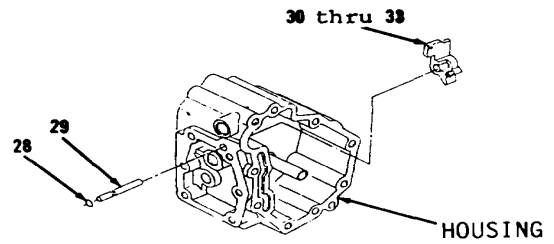
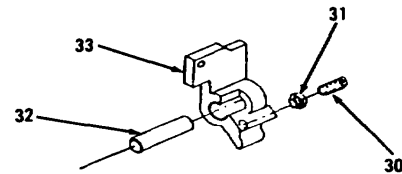

Figure 3-114.
Figure 3-115.
12. Remove shaft (29, Figure 3-114) and items 30 thru 33 as an assembly.
13. Remove ring (28) from shaft (29).
14. Remove setscrew (30), nut (31) and sleeve (32) from lever (33, Figure 3-115) only if replacement proves necessary.